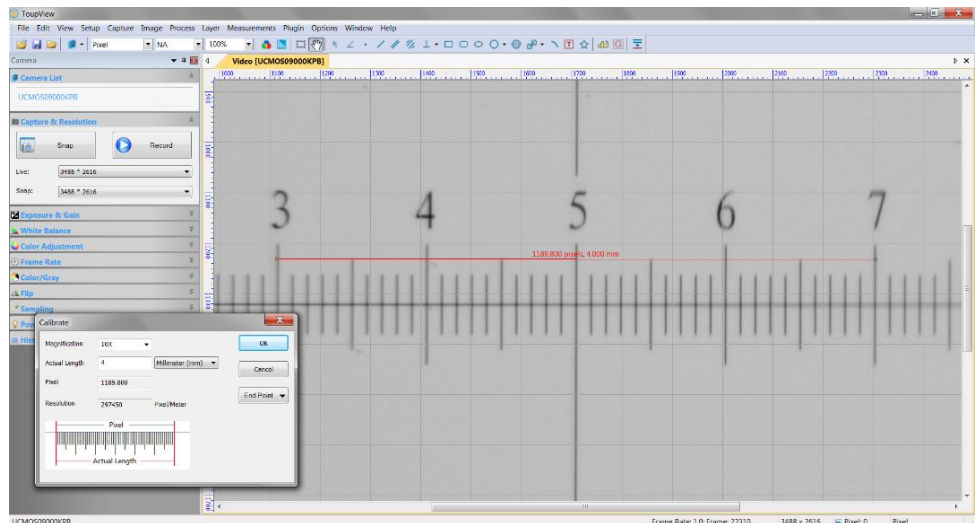

Figure 30. Calibration settings for 10X magnification
8) Use the mouse to align the red line between two division marks on the calibration scale. Drag the ends of the red line as far as possible across the screen for the most accurate calibration, as in Figure 30.
9) In the **Calibrate dialog**, enter 10X into the **Magnification** field and the appropriate value in mm to the **Actual Length** field. In Figure 30, the **Actual Length** of the red line is 3 mm long. The value entered for the **Actual Length** will be displayed above the red line, and a value will be automatically calculated and displayed in the **Resolution** field.